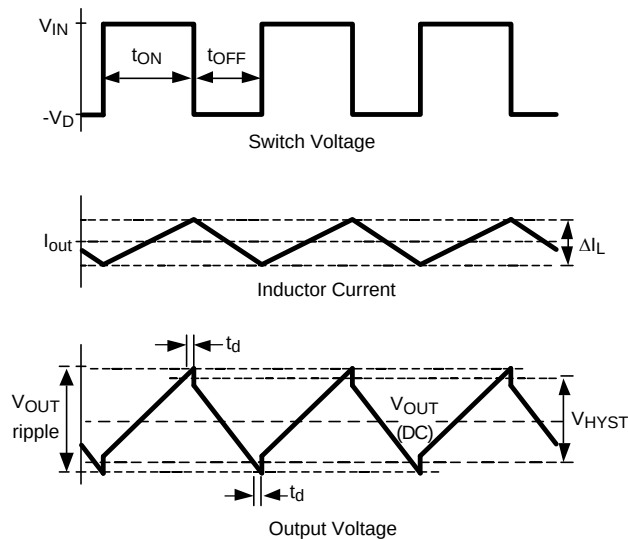

Figure 12. Hysteretic Waveforms
With the PFET on, the input supply charges C_{OUT} and supplies current to the load through the PFET and the inductor. Current through the inductor ramps up linearly, and the output voltage increases. As the FB voltage reaches the upper threshold (reference voltage plus hysteresis) the output of the comparator goes high, and the PGATE turns the PFET off. When the PFET turns off, the catch diode turns on, and the current through the inductor ramps down. As the output voltage falls below the reference voltage, the cycle repeats. The resulting output, inductor current, and switch node waveforms are shown in Figure 12.
- $t_{off_{min}}$ is the sum of the blanking time, the propagation delay time, and the PFET delay time (see Figure 12) (2)
Capacitors with high ESL (equivalent series inductance) values should not be used. As shown in Figure 12, the output ripple voltage contains a small step at both the high and low peaks. This step is caused by and is directly proportional to the output capacitor's ESL. A large ESL, such as in an electrolytic capacitor, can create a step large enough to cause abnormal switching behavior.